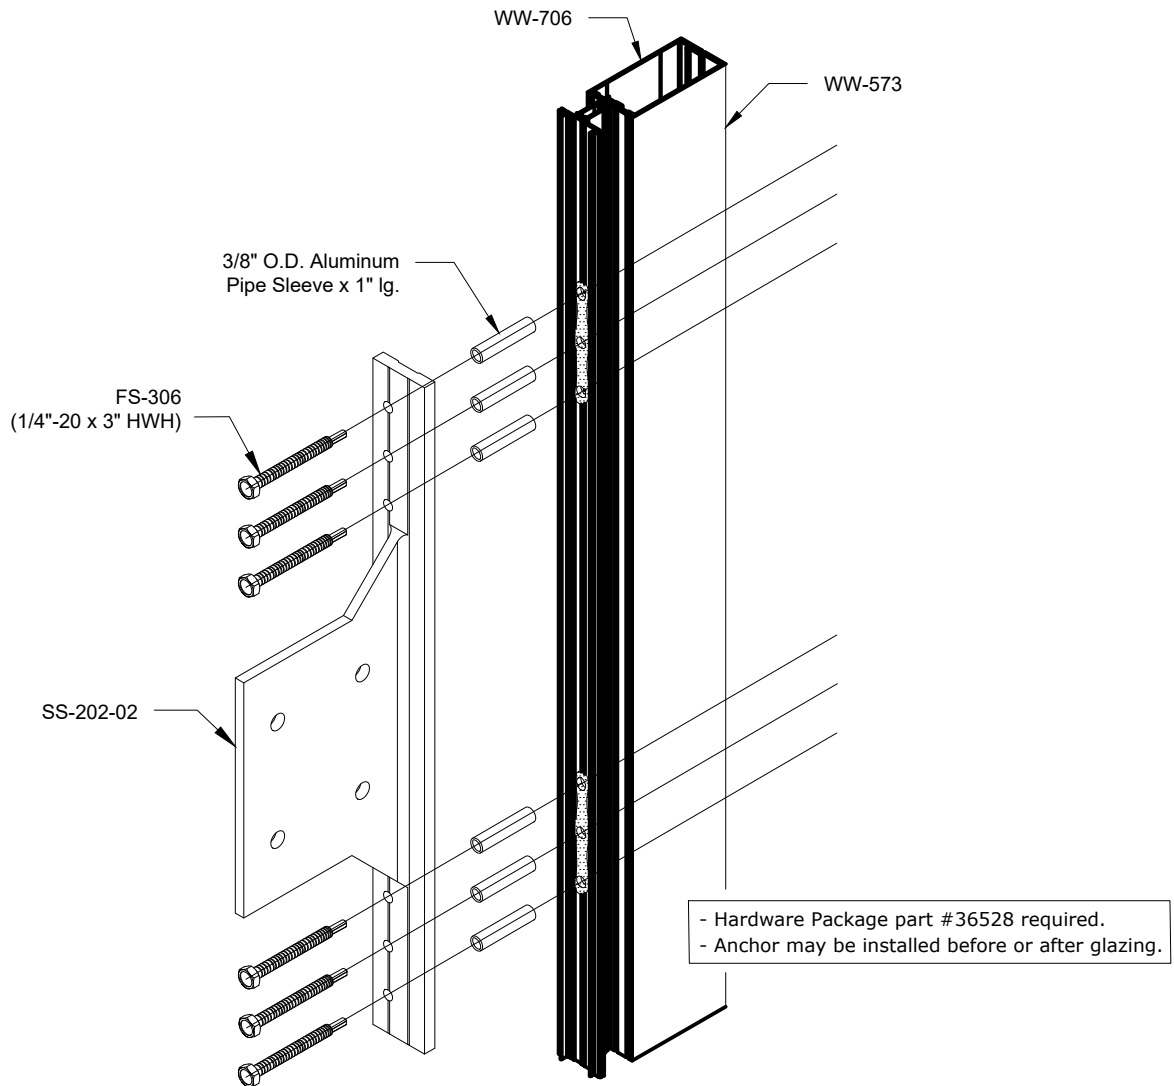

Figure 49
- 4) Use the sunshade anchor to mark the mullion tongue (WW-706). Drill the tongue of the mullion using a $\frac{13}{32}$ " drill bit and insert a $\frac{3}{8}$ " x 1" long pipe sleeve inside of the thermal struts. The Bi Flex fastener will be used to drill into the tubular section of the mullion. See FIGURE 49.